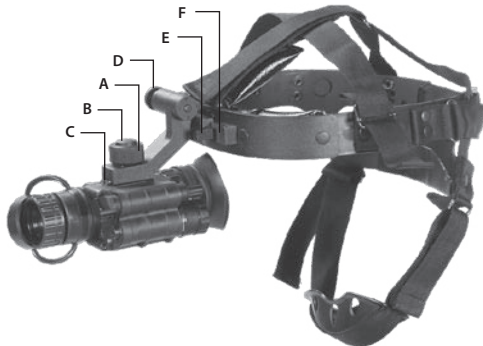

FIGURE 3-2. MOUNTING NYX-14 TO A GOGGLE KIT
Mount the NYX-14 to the optional goggle kit as follows (refer to Figure 3-2):
2. Loosen the screw (A). While pushing down on the button (B), insert the NYX-14 rail into the guide (C) of the goggle kit bracket. Tighten the screw (A).
4. To adjust the equipment for greater comfort, loosen the screw (A) and move the unit along the guide (C).
5. The goggle kit has a flip-up mechanism. Push the button (D) of the goggle kit bracket and lift the unit up until it reaches its top position. The unit will automatically turn off when it reaches this position.
6. Push the same button (D) to lower the unit into the correct viewing position. Turn the unit back on to continue your session.
Figure 3-2 shows the NYX-14 in the correct position for the right eye. To readjust the unit for the other eye, remove the unit from the goggle kit bracket. Turn the unit around (180°) and mount it on the bracket through the rail on the second side. With the button (E) pushed, move the unit along the slide-rail (F) until the desired, most comfortable position is reached.